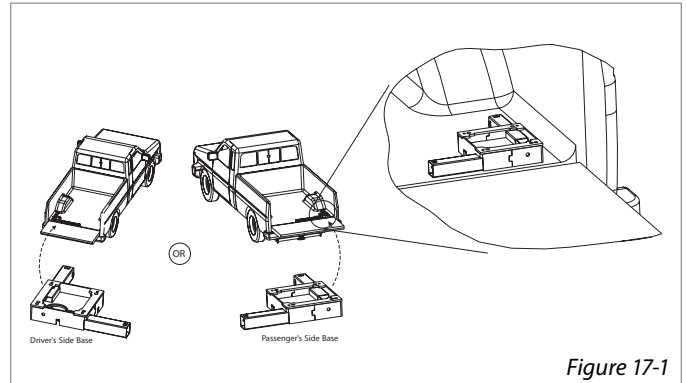

Figure 17-1
1. **Place base in corner of truck bed.** Attempt to position as close to the corner as possible while leaving at least 1" clear around the base on all sides. [Figure 17-1]